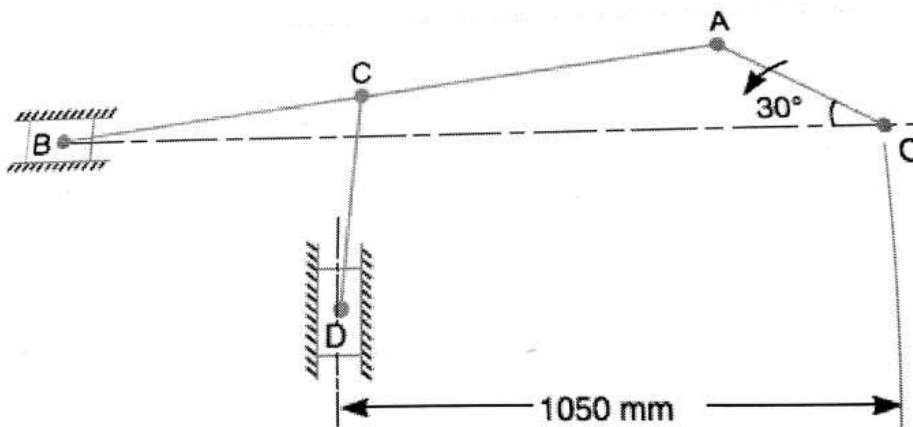

Fig.3
Q.4 In the mechanism, as shown in Fig.3, the crank OA rotates at 20 r.p.m. Anticlockwise and gives 15 motion to the sliding block B and D . The dimensions of the various links are $OA = 300 \text{ mm}$; $AB = 1200 \text{ mm}$; $BC = 450 \text{ mm}$ and $CD = 450 \text{ mm}$. For the given configuration, Determine :